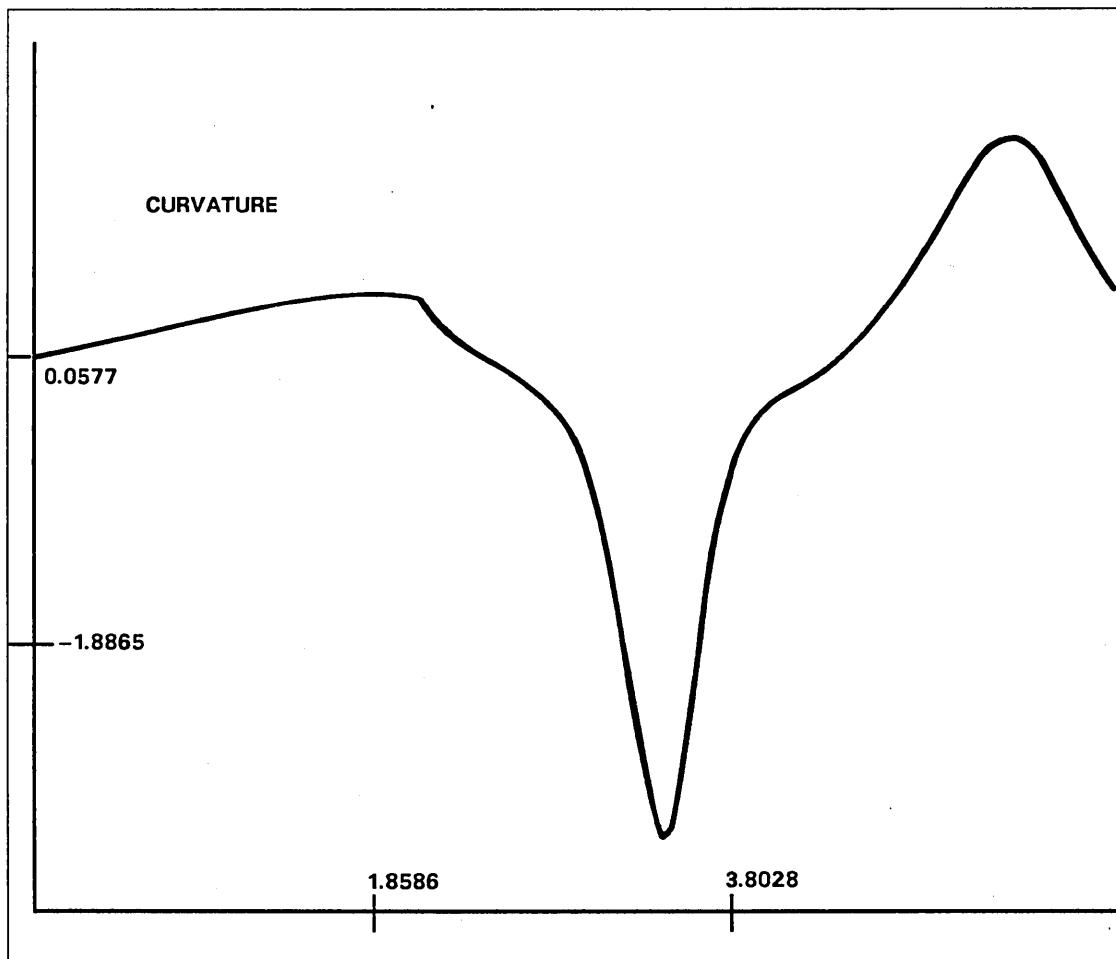

Figure 2-6. Curvature of the Spline
- 2 To display a graph of the curvature along the spline. The current display is replaced by a plot of the spline's parametric range along the horizontal axis of the graph versus its curvature along the vertical axis of the graph. The curvature is a measure of the change in direction of the spline. The curvature plot reveals any unexpected irregularities, such as inflections, roughness, and bumps. A spline with a generally small curvature (for example, less than 0.1000) is a very smooth curve. The curvature is the inverse of the radius of curvature. (Refer to figure 2-6.)